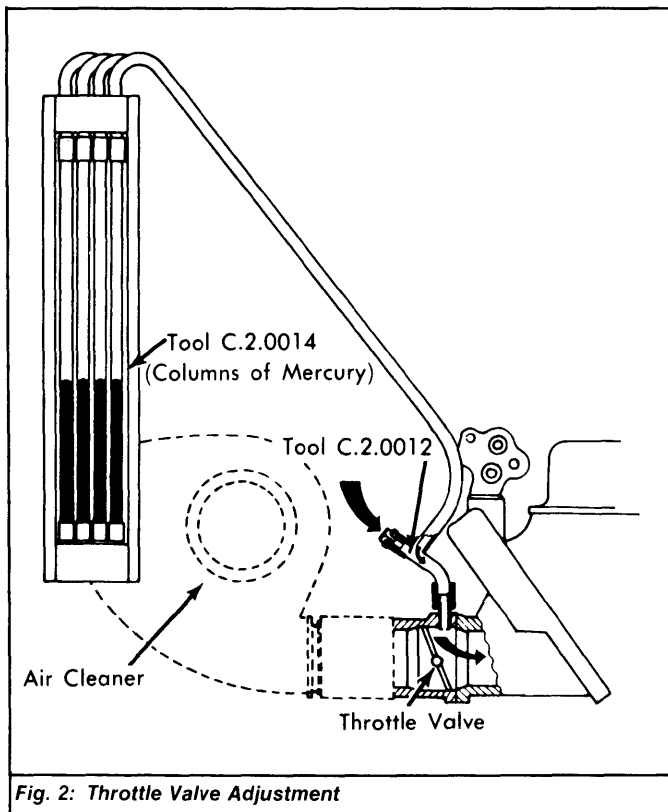

Fig. 2: Throttle Valve Adjustment
1) Remove air cleaner and hoses to inlet port of each cylinder. Using Adapter (C.2.0012) attach Mercury Manometer (C.2.0014). See Fig. 2.